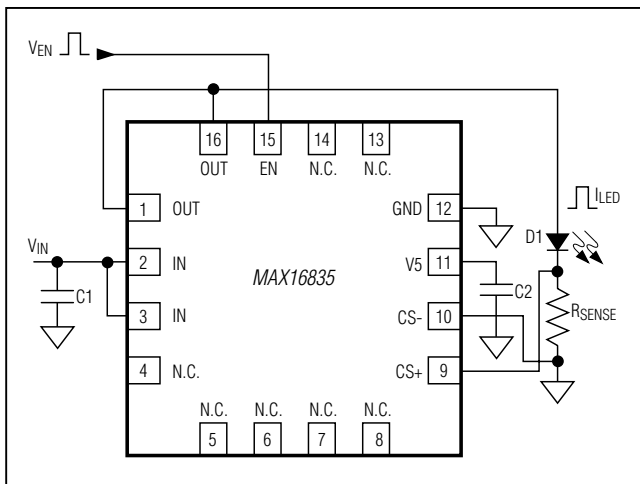

Figure 1. Pulse Application with  $V_{IN}$  at a Constant Voltage
The MAX16835 provides pulsed or chopped current dimming. Generally, HB LEDs are binned to match at their full-rated current; however, LEDs from the same bin exhibit poor matching at currents other than full-rated current. To achieve uniformity, HB LED manufacturers recommend PWM pulsing of the LED current at their full-rated value. There are two methods for producing a PWM output. One method is by pulsing the enable input (EN) while having a constant voltage at  $V_{IN}$ . The other method is to connect EN to  $V_{IN}$  and pulse both EN and  $V_{IN}$ . Both methods generate a regulated-amplitude PWM current (variable duty cycle) that can provide control over the LED brightness (see Figures 1 and 2).